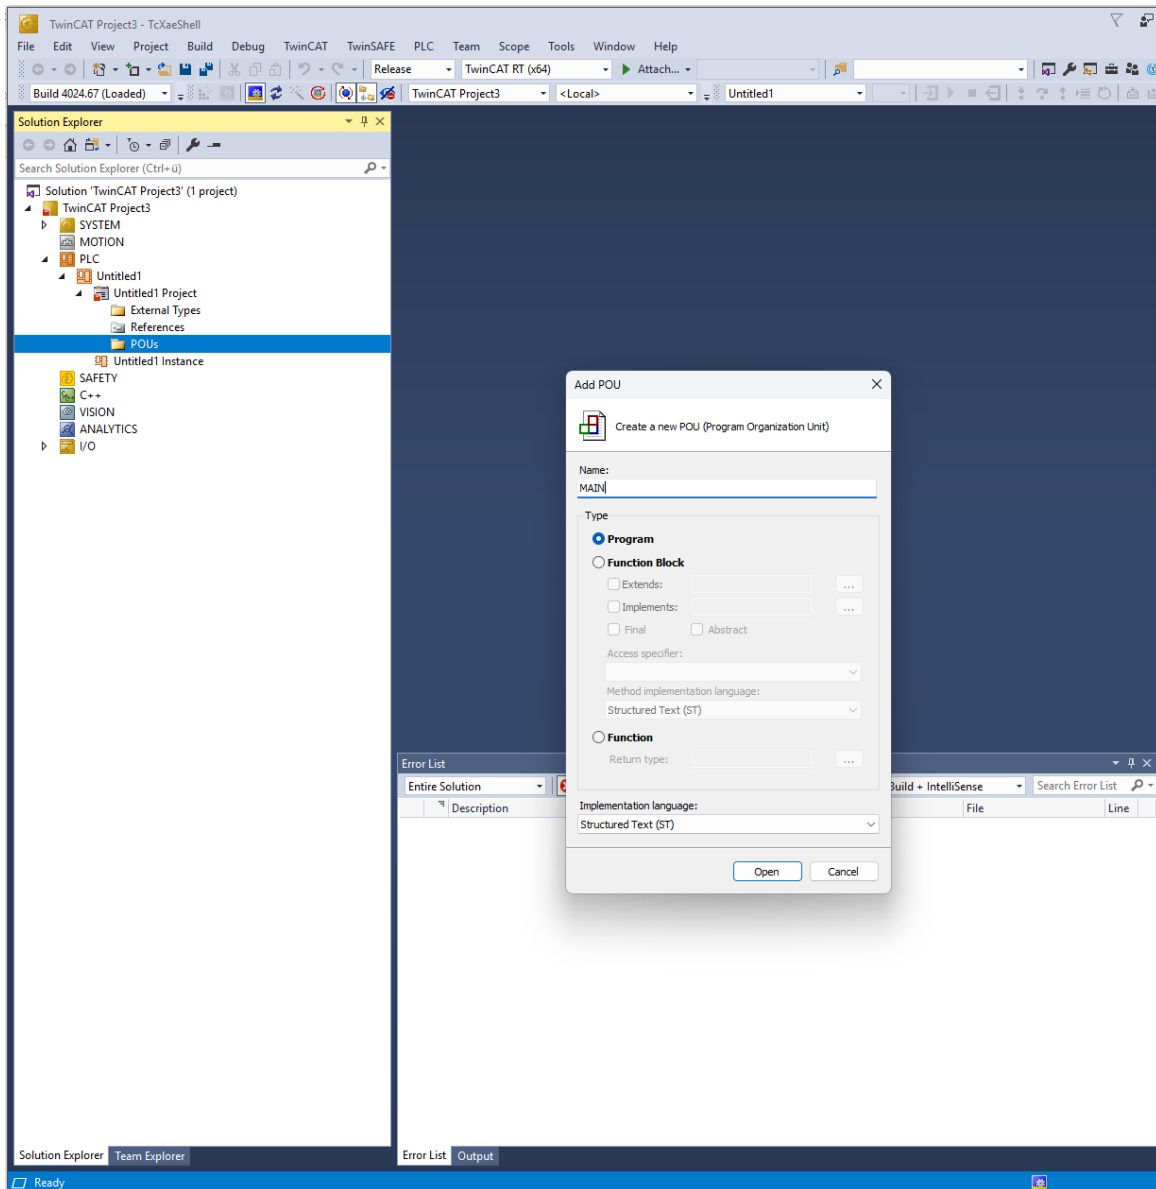

Figure 9: Add MAIN and WriteData PRG files
5. In this step, you need to add 2 program definitions under the POU's folder to extract the PLC sensor data, namely MAIN and WriteData. First, right click on the Project under PLC and create a new folder named POU's. Then, right-click on the Project under PLC and create the MAIN and WriteData PRG files as seen in Figure 9